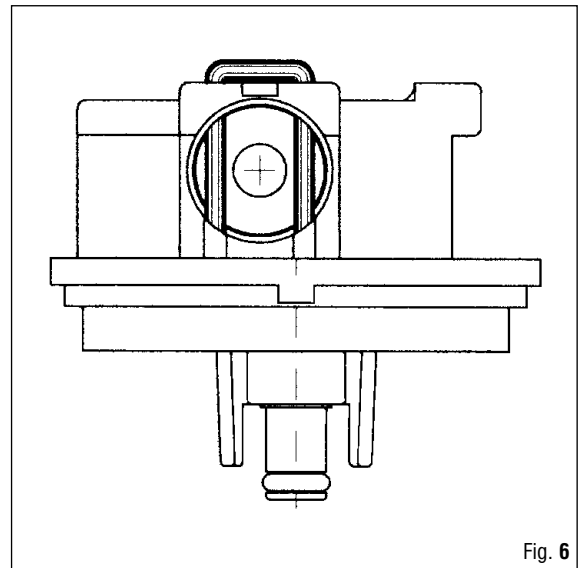
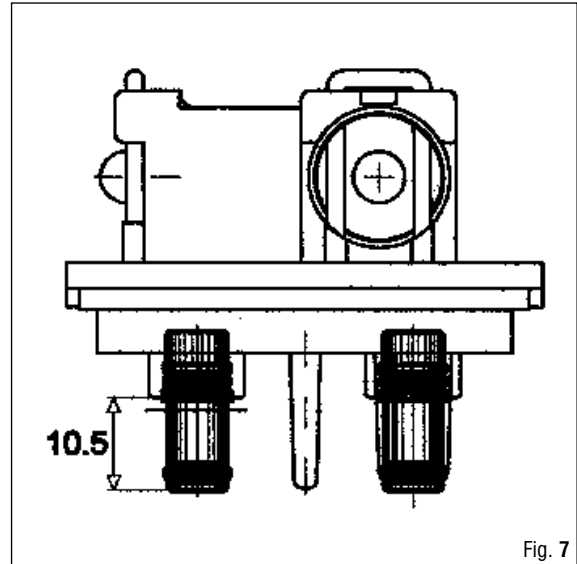

Fig. 6
Fig. 7
26. Position the spring (2) on the inflation button (19) inside the inflation socket (20).
27. Insert the complete inflation socket (20) inside the inflator body (1) and block it with the fastening fork (59) (Fig. 6).
CAREFULLY CHECK THAT THE POINTS OF THE FORK ARE INSERTED WELL INTO THE SEATS OF THE INFLATOR BODY (FIG. 6).
28. Position the 3 O-Rings (50) in the seats of the discharge bushing (52).
29. Position the spring (2) on the discharge button inside the discharge bushing (52).
30. Insert the discharge bushing (52) in the inflator body (1) seat and fasten with a fastening fork (59). (Fig. 6)
31. Position the O-Rings (23) in the seats of the perforated O-Ring housing spindles (57).
32. Correctly insert the O-Ring housing spindles (57) in the seats of the inflator body (1). (Fig. 7).